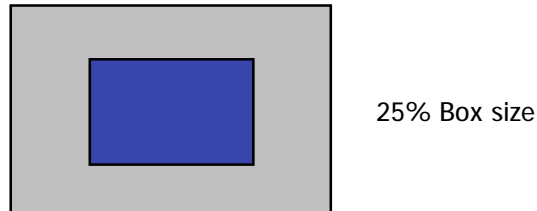
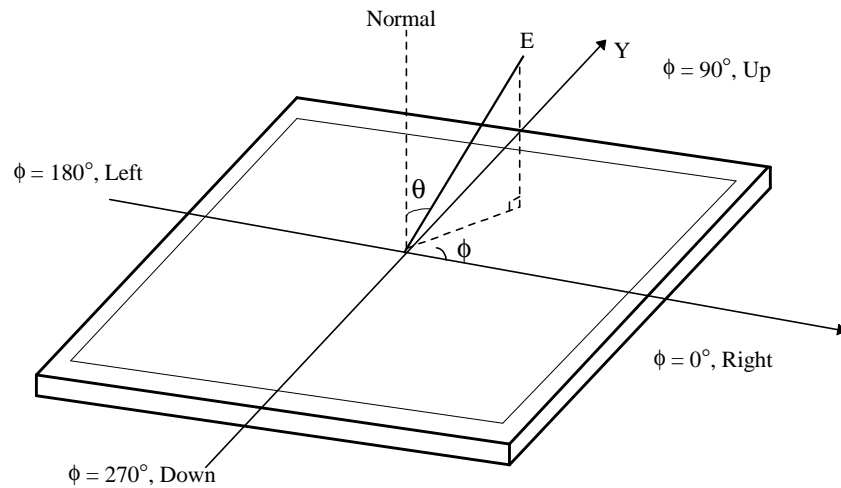

FIG. 3 Color Shift Test Pattern
FIG. 4 Viewing angle
FIG 3 presents additional information concerning the measurement equipment and method.
[FIG 3] Optical Characteristic Measurement Equipment and Method
For more information see FIG 3 and FIG 4. (By EZ Contrast)
6. Viewing angle is the angle at which the contrast ratio is greater than 10. The angles are determined for the horizontal or x axis and the vertical or y axis with respect to the z axis which is normal to the LCD surface. For more information see FIG 4. (By PR880)